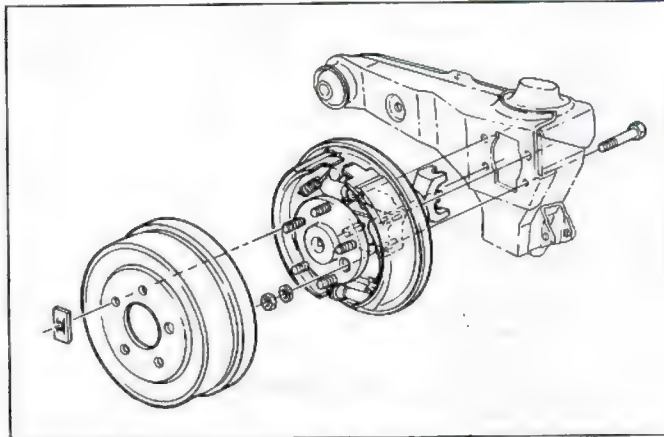

Fig. 82—Rear Wheel Spindle, Support and Brake Removal
3. Remove the torque arm-to-spindle support retaining nuts, then remove the spindle, spindle support and brake flange plate as an assembly (fig. 82).